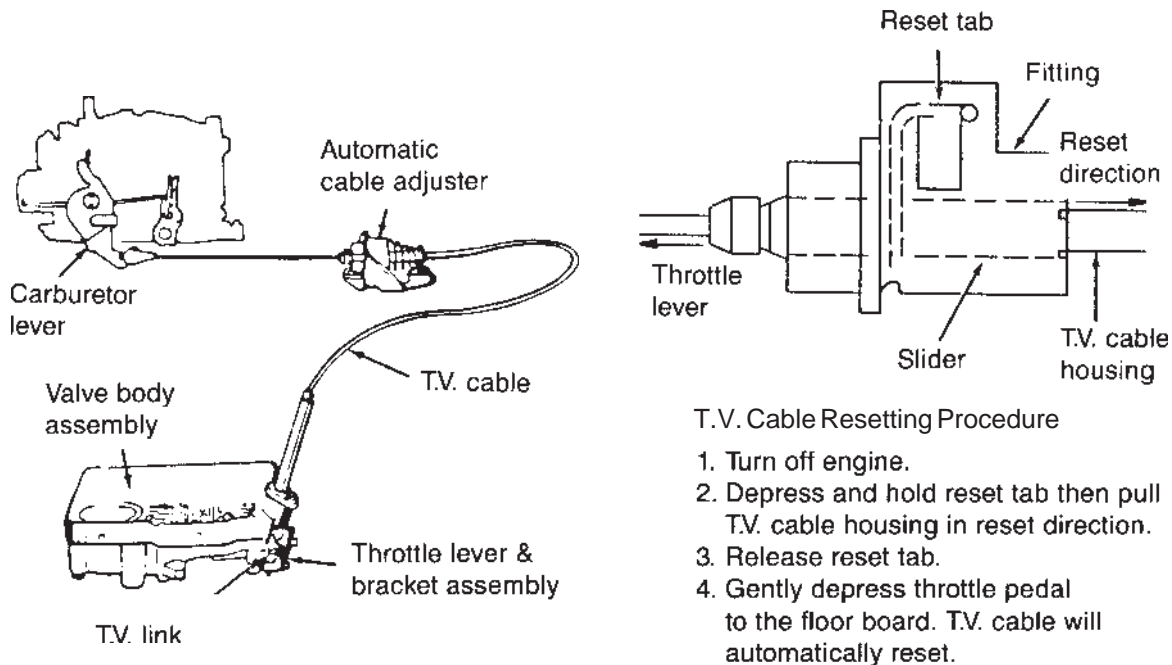

Fig. 11. T.V. Cable Adjustment Procedure.
STEP 22. You must reset the TV cable, (See Fig. 11) for the correct procedure. Failure to reset the TV cable will result in poor shift quality and, or transmission failure.
Minimum T.V. Line Pressure Check: Set the T.V. cable (See Fig. 11) With the brakes applied, take the line pressure readings at the selector